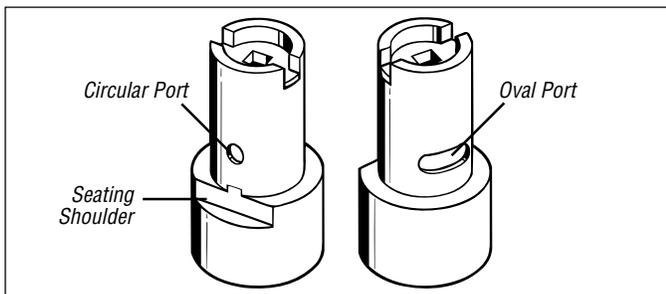

Figure 20
1.3.25 Closely examine the features of the poppet housing to identify the two airflow ports on opposite sides; one which is oval, and the other which is circular. Also, locate the squared-off seating ledge just below the circular port, which indexes with the body (see Fig. 20). Position the poppet housing over the assembly post with the oval port facing toward six o'clock.